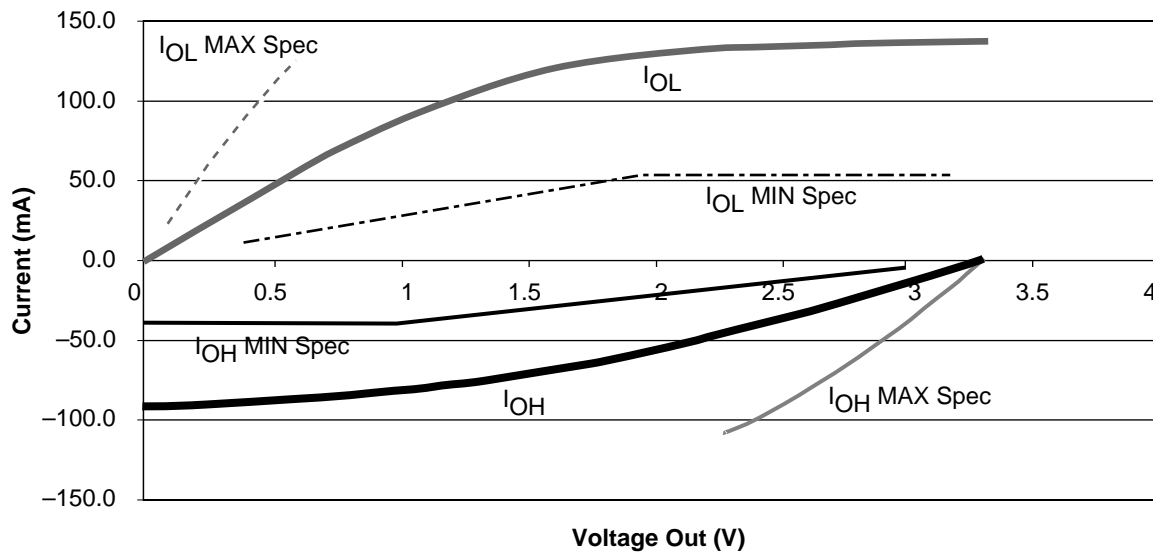

Figure 12 • 3.3V PCI Curve for HiRel SX-A Family
Figure 12 shows the 3.3V PCI V/I curve and the minimum and maximum PCI drive characteristics of the HiRel SX-A family.
1. Refer to the V/I curves in Figure 12 on page 16. Switching current characteristics for REQ# and GNT# are permitted to be one half of that specified here; i.e., half size output drivers may be used on these signals. This specification does not apply to CLK and RST#, which are system outputs. "Switching Current High" specifications are not relevant to SERR#, INTA#, INTB#, INTC#, and INTD#, which are open drain outputs.
2. Maximum current requirements must be met as drivers pull beyond the last step voltage. Equations defining these maximums (C and D) are provided with the respective diagrams in Figure 12 on page 16. The equation defined maximum should be met by the design. In order to facilitate component testing, a maximum current test point is defined for each side of the output driver.